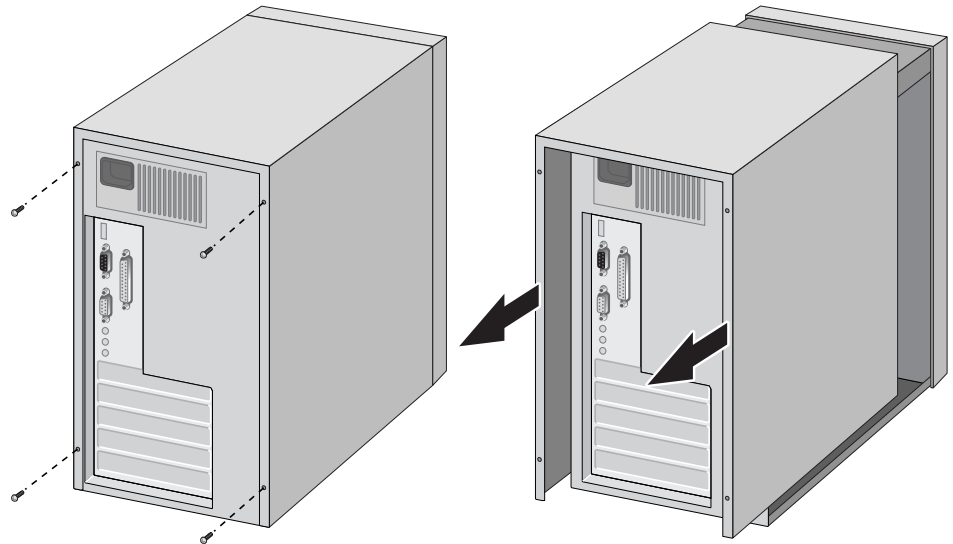

Figure 9. Removing the PC Cover
2. Remove the system cover and select any empty PCIe slot. See Figure 9 on page 31.